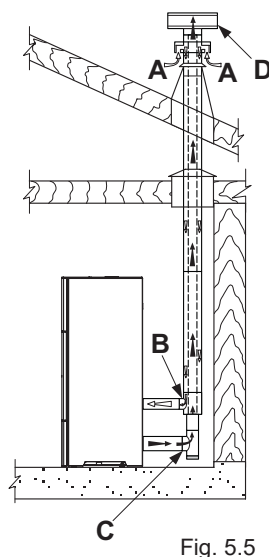

Fig. 5.5
- channel the combustion air using a coaxial exhaust pipe for the expulsion of the flue gases and air withdrawal; therefore it is not necessary to create a classic air intake in the room (fig. 5.5 A,B = Air inlet C,D = Flue gas outlet);
If a pellet stove in the "Hermetic" series is installed, it is possible to use a specific coaxial pipe that allows both the expulsion of flue gases and the ducting of the combustion air from the outside (fig. 5.5 A,B=Air inlet C,D=Flue gas outlet).